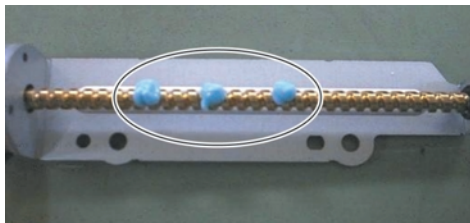

Fig. 12
- Apply grease to the screw at 3 points as shown below. (Fig. 12)
- スクリー部の下図3ヶ所にグリスを塗布します。(Fig. 12)